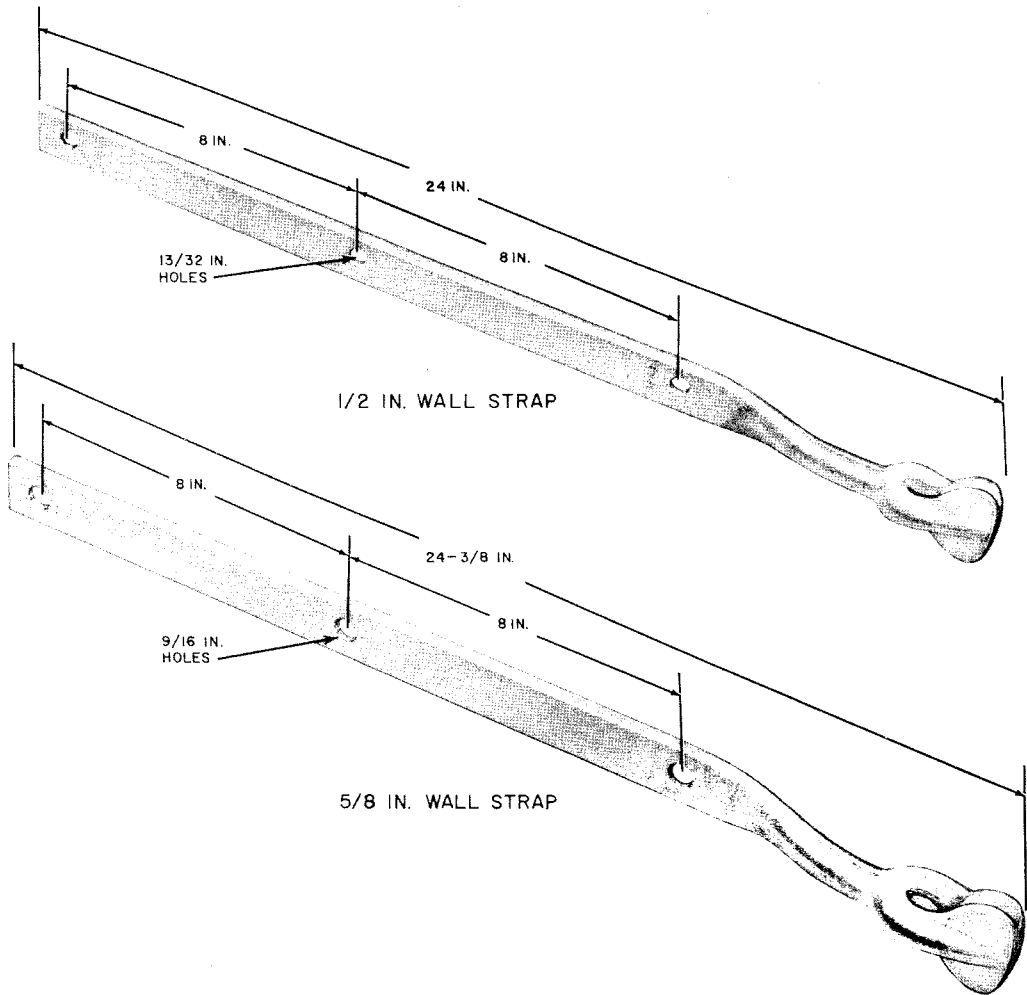

Fig. 4—Wall Strap
2.04 **Wall Straps (Fig. 4):** The 1/2-inch wall strap is used for dead ending 2.2M strand